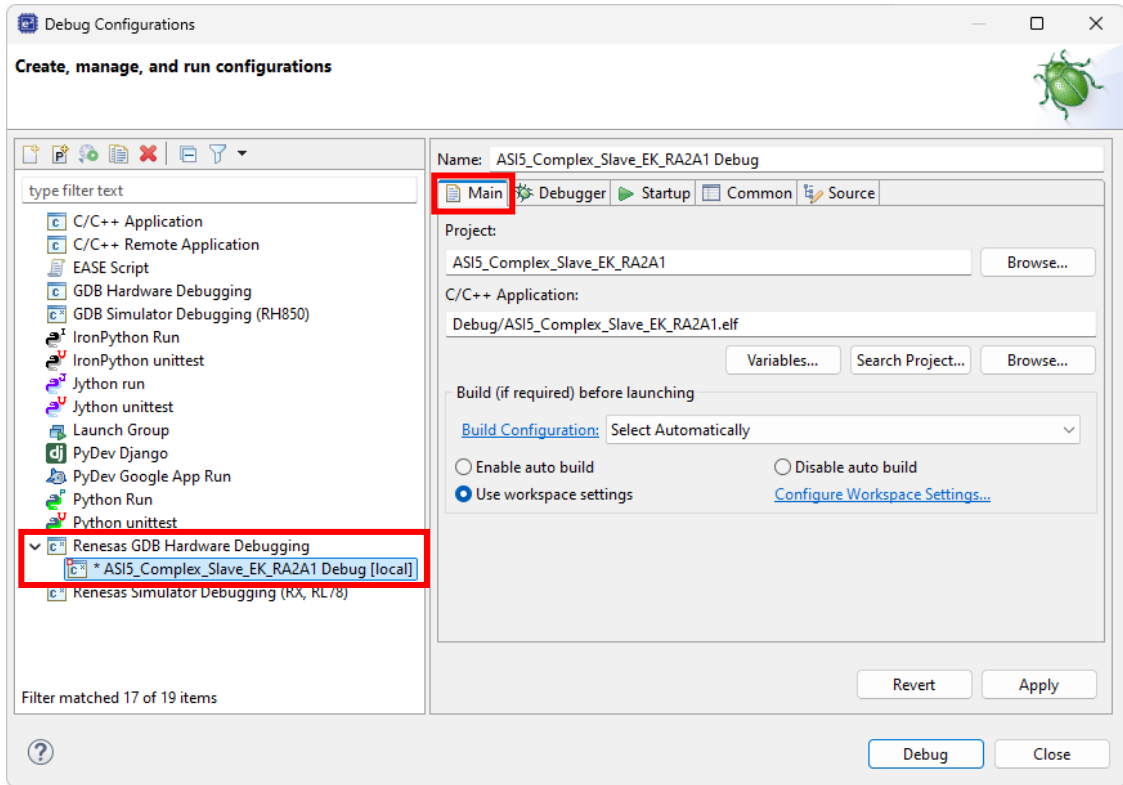
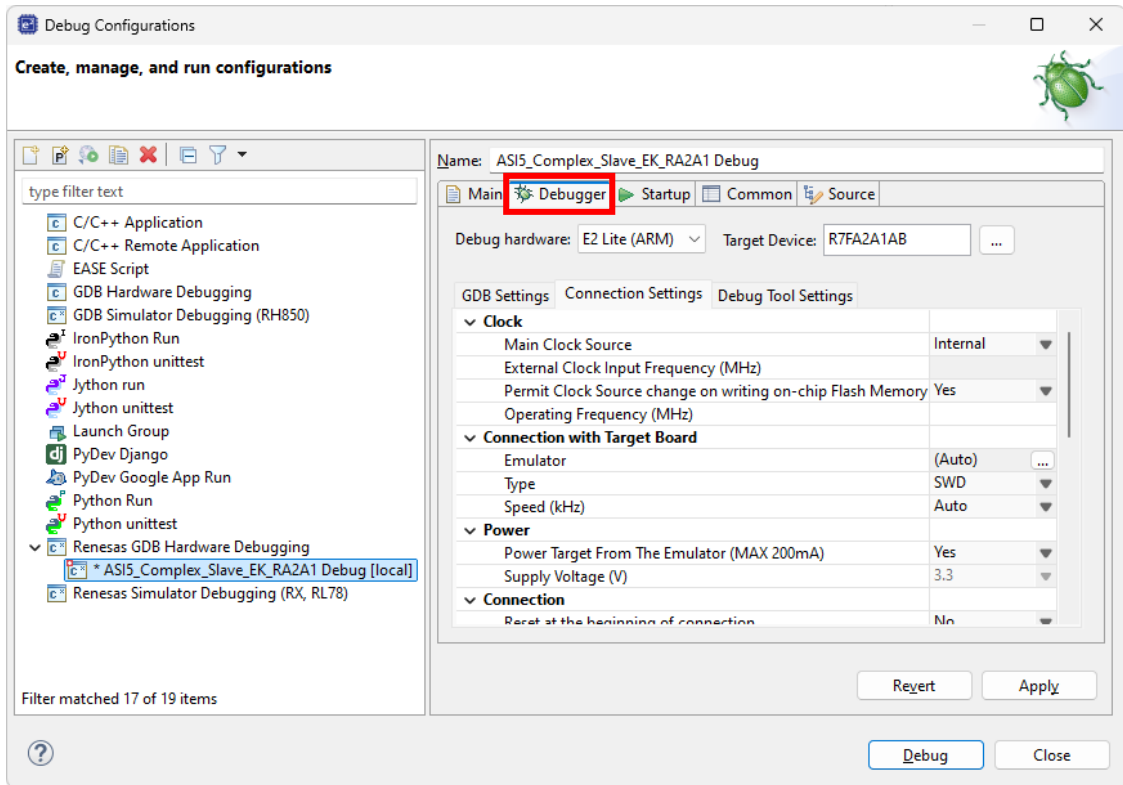

Figure 22. Debug Configuration
Figure 23. Debug Configuration Debugger Settings
- c. Ensure that the **Main** settings (Figure 22) and **Debugger** settings (Figure 23) are set correctly.